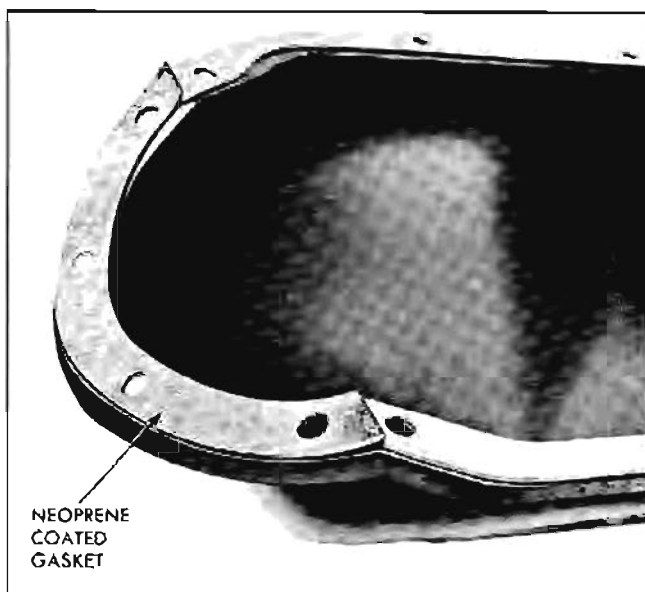

Fig. 6-47 Oil Pan Gaskets Positioned for Installation
9. Apply gasket cement to gasket surface of oil pan and position new gaskets on pan. Make sure front gasket overlaps side gaskets (Fig. 6-47). Retainers should be used to hold gasket in position for installation.